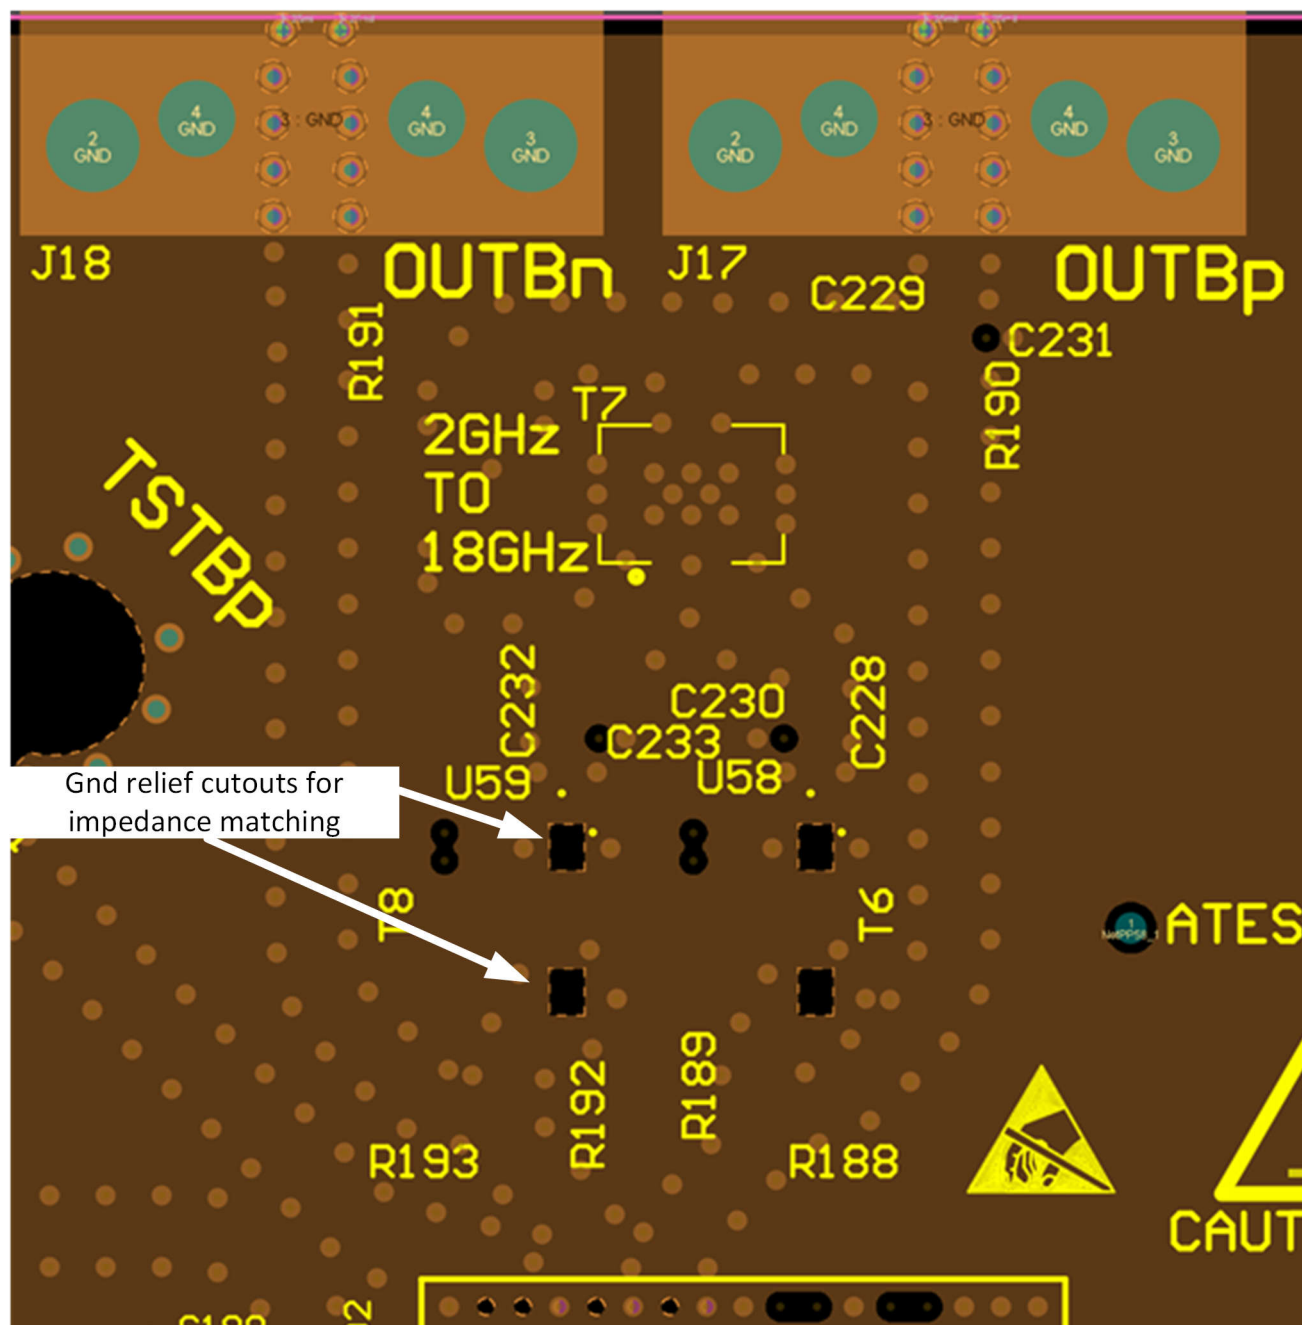

Figure 9-11. Ground Cut-outs below Balun Pins
5. Incorporate any ground plane cutouts necessary at component landing pads, ie – SMA connectors, baluns, and so on, to avoid impedance discontinuities at these locations. Cut-outs below these landing pads on one or multiple ground planes to achieve a pad size or stackup height that achieves the needed 50Ω, single-ended impedance. See Figure 9-11 and an example.